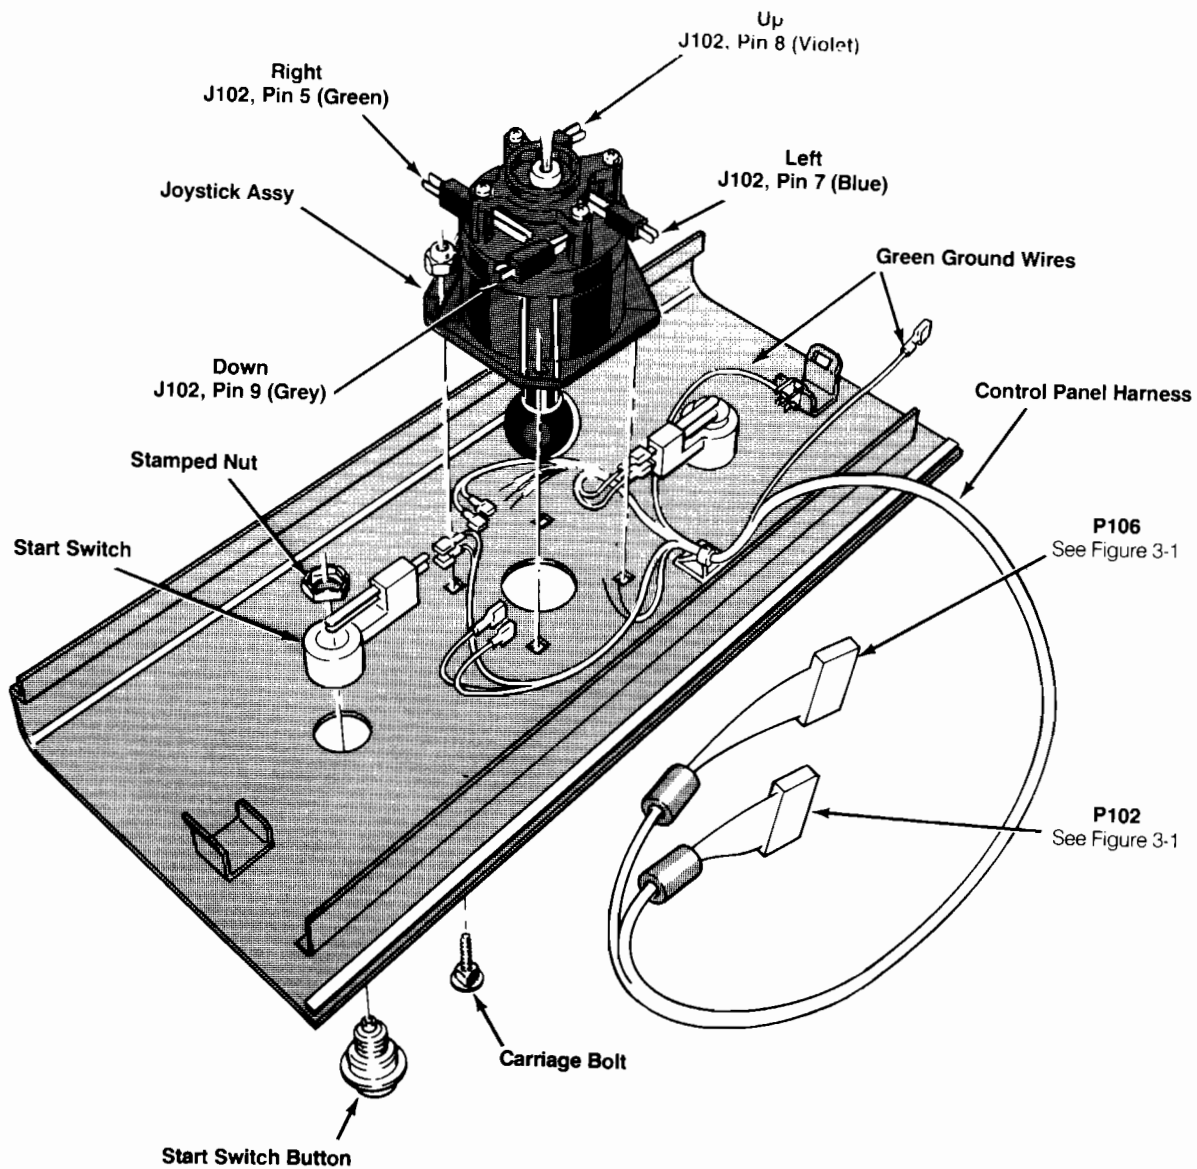

Figure 3-2 Removing the Joystick Assembly and Start Switches
Reconnect the harness wires as shown in Figure 3-2.
Perform the following procedure to remove/replace the player start switches (see Figure 3-2).
3. To remove the switch pushbutton, turn the stamped nut with a wrench in a counterclockwise direction, as seen from the inside of the control panel. The ring on the outside of the control panel should not spin (see Figure 3-2).
4. Reinstall the pushbutton switch. Reconnect the harness wires to the switch terminals as shown in Figure 3-2.
Perform the following procedure to remove/replace the joystick from the control panel (see Figure 3-2).